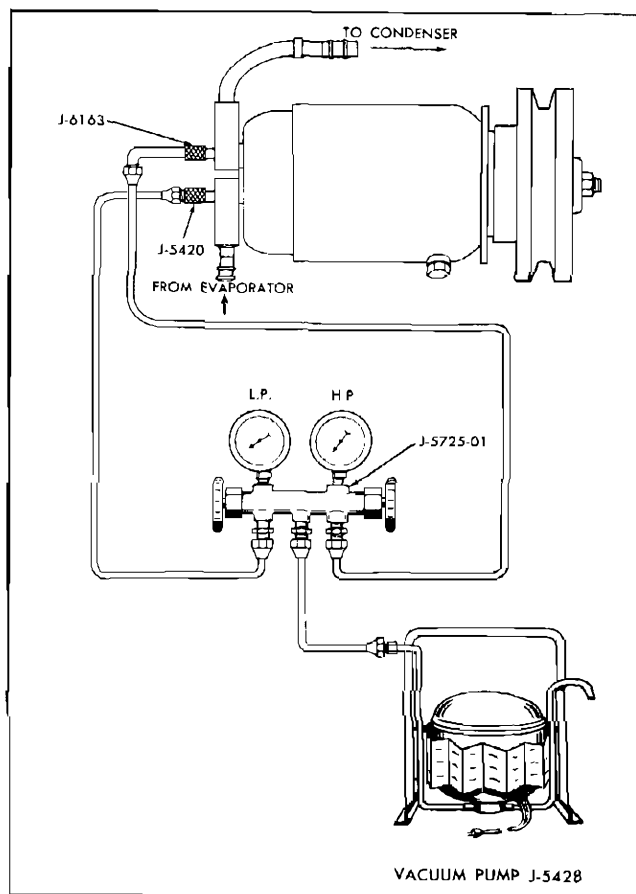

Fig. 7-39 Schematic Showing Connections and Tools for Evacuating Refrigeration System
3. Attach a flexible gauge hose to the center fitting of the gauge set and attach the other end of this hose to the vacuum pump J-5428. (See Fig. 7-39).